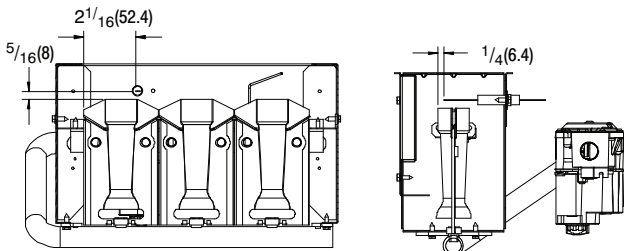

Fig. 4 – Igniter Location
- Verify the ignitor is in the correct location. (See Fig. 4.)